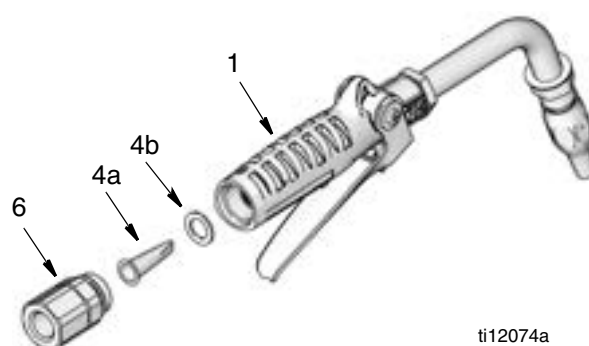

FIG. 4
2. Unscrew hose fitting from swivel (6).
3. Remove swivel (6) from valve handle (1).
4. Remove strainer (4a) and washer (4b) from inside of swivel (6).
5. Replace washer (4b) and strainer (4a). Refer to FIG. 4 to ensure correct orientation of filter in swivel.